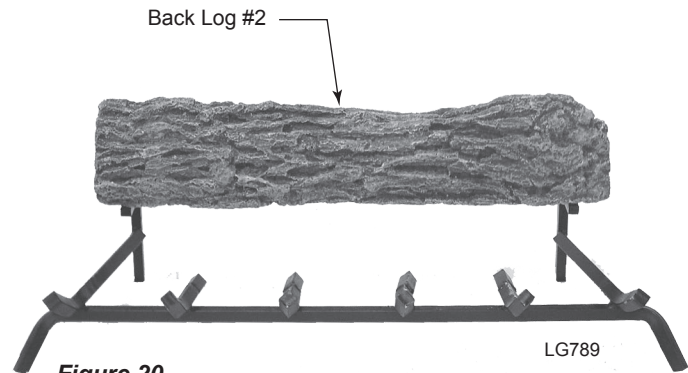

Figure 20 -
1. Place Back Log #2 on grate bars on back of grate. *Figure 20*